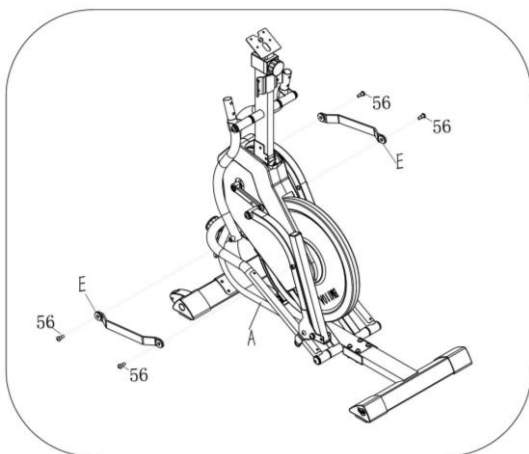

Figure 4
Use wrench(104), Lock the Connection Pad (E) onto the Swing Handle Bar and Pedal Frame by 4pcs Bolt (56), as shown in Figure 4.